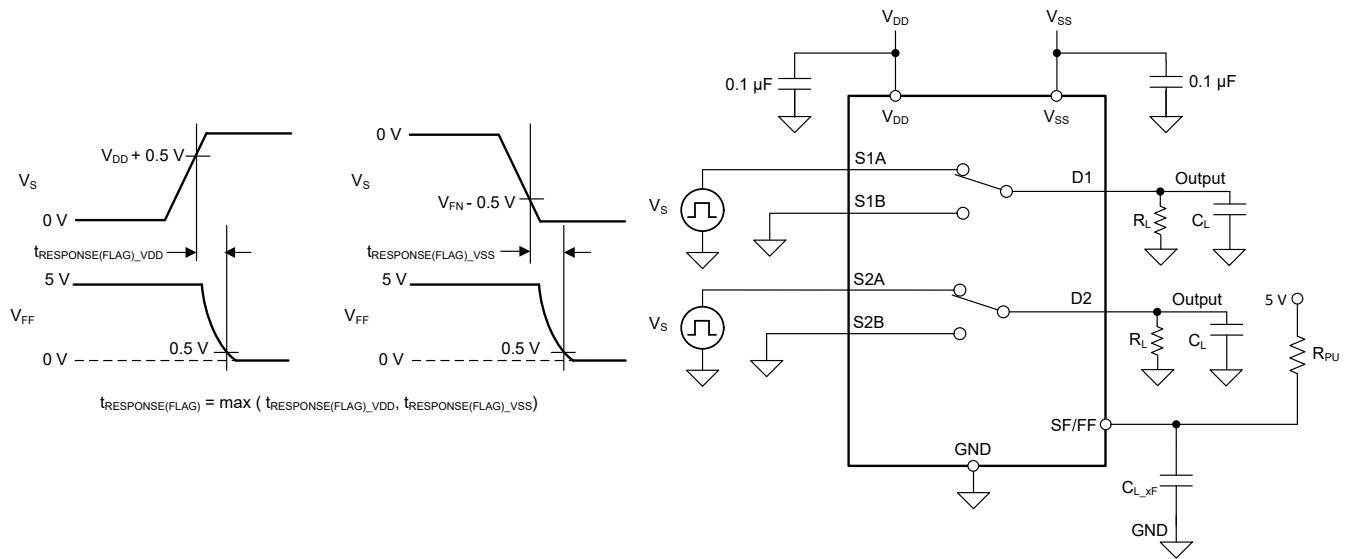

Figure 7-11. Fault Flag Response Time Measurement Setup
Fault flag response time ($t_{\text{RESPONSE(FLAG)}}$) measures the delay between the source voltage exceeding the fault supply voltage (V_{DD} or V_{SS}) by 0.5 V and the general fault flag (FF) pin to go below 10% of its original value. Figure 7-11 shows the setup used to measure $t_{\text{RESPONSE(FLAG)}}$.